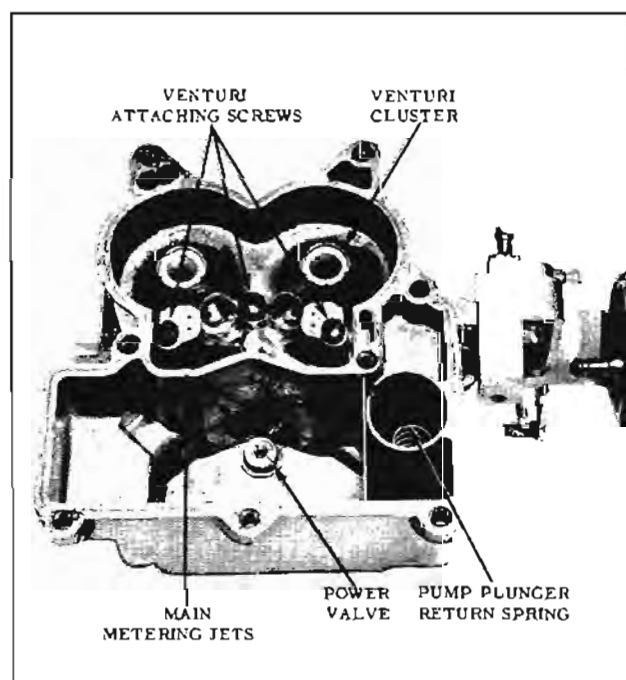

Fig. 9-153 Float Bowl Assembly
1. Remove pump plunger return spring from the pump well. (Fig. 9-153)